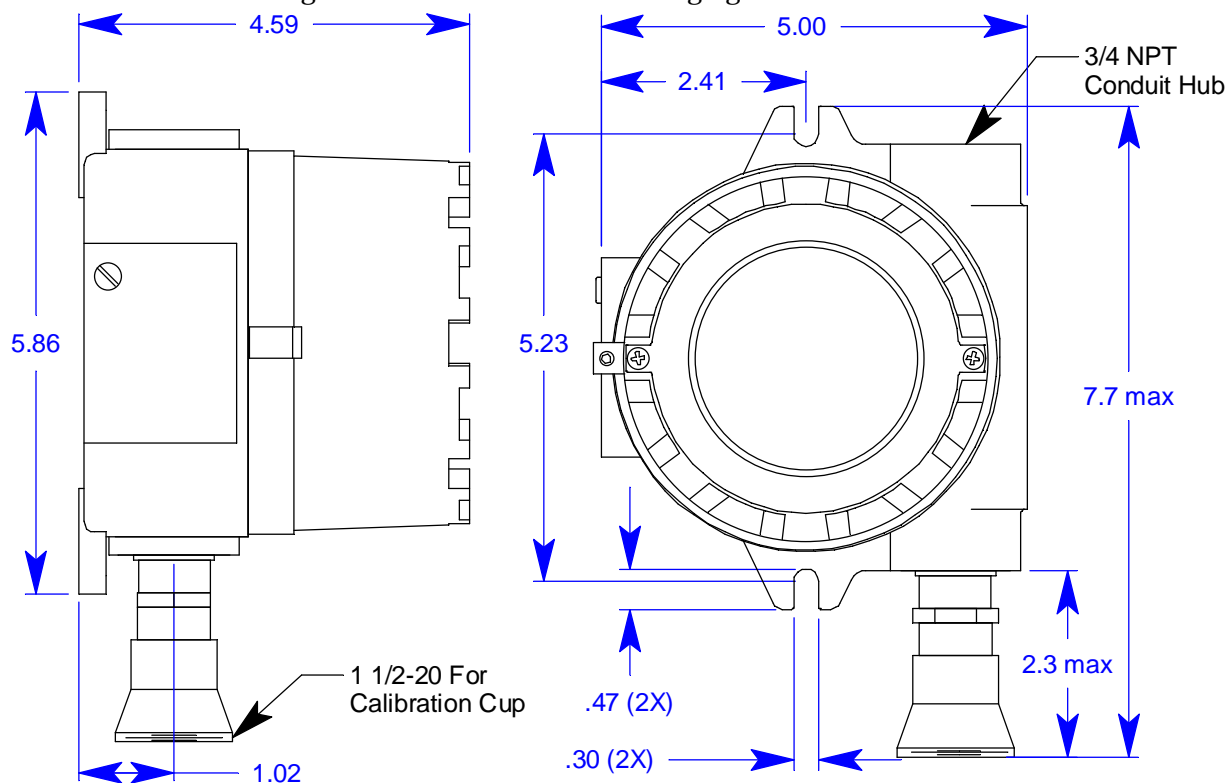
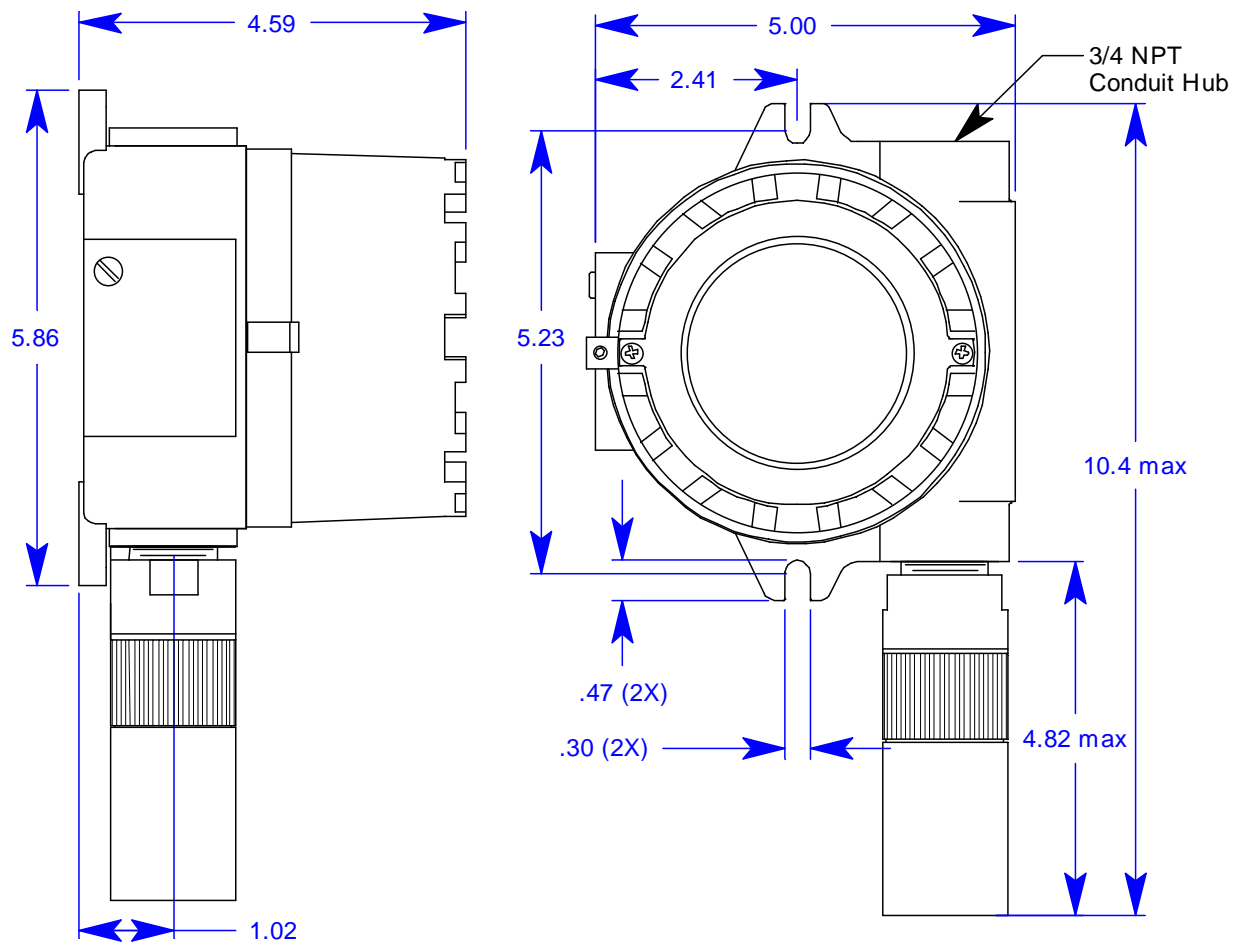

Figure 11: Outline & Mounting Dimensions, Catalytic LEL
Figure 16: Outline & Mounting Dimensions, ESM-01 Toxic
2. At the monitoring site, use #10 screws through the junction box's two mounting holes to secure the junction box to a vertical surface. Figure 11 - Figure 16 show the outline and mounting dimensions for each version of the M2. Mount the M2 with the detector facing down as shown in the following figures.